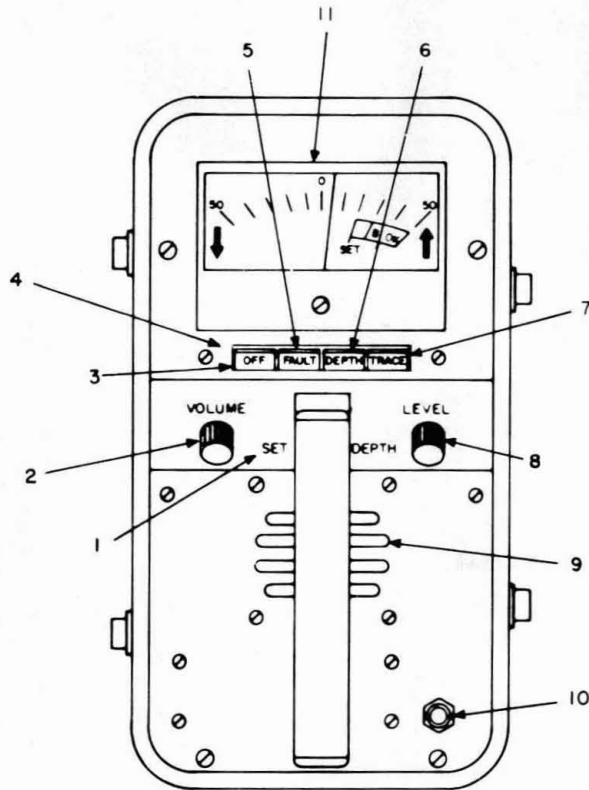

Fig. 4—173A Receiver
3.04 The receiver is housed in the top part of the case. The receiver is designed to be carried with one hand and the FUNCTION SWITCHES operated with the same hand. The 173A test set (receiver) is illustrated in Fig. 4.